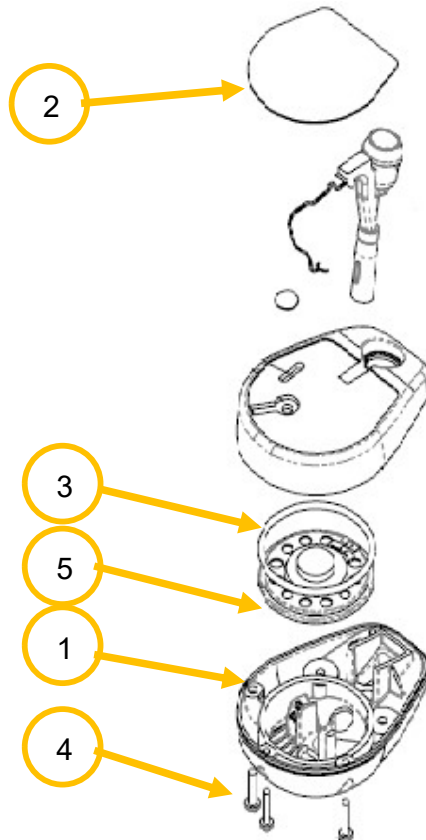

Figure 39: Speaker Pod.
Figure 39 illustrates the major parts of the speaker pod.
- Remove five (or three depending on pod version) screws (Part 4 of figure 39) on underside of speaker pod.